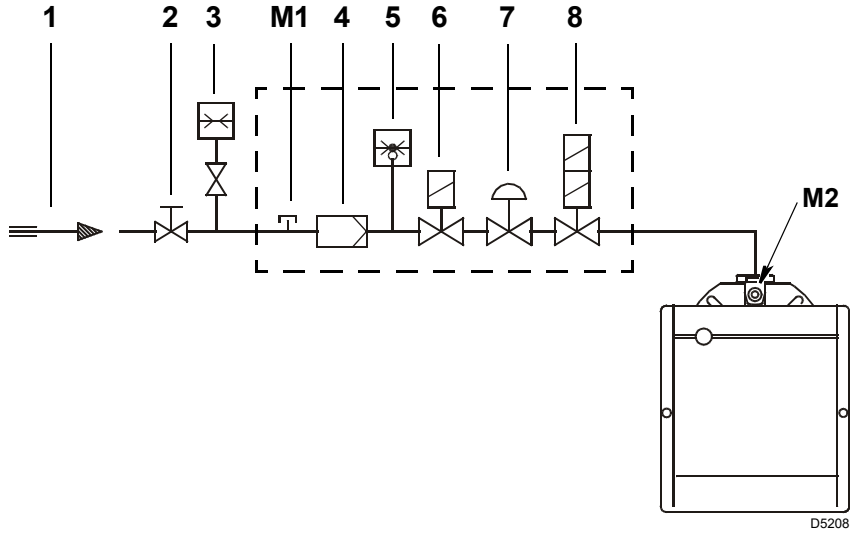

Fig. 16
Key (Fig. 16)
Gas pressure measured at test point M2)(Fig. 16 on page 20), with:
- subtract the pressure in the combustion chamber from the pressure of the gas at test point M2)(Fig. 16 on page 20).
Gas pressure at test point M2)(Fig. 16) = 10 mbar
To calculate the required gas pressure at test point M2)(Fig. 16 on page 20), with the maximum modulating output at which you want the burner to operate having been fixed:
- Read on the right, column 1, the pressure at the socket M2)(Fig. 16 on page 20).